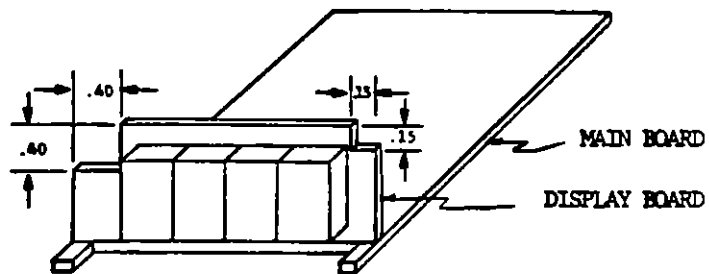

Figure 4. Display Board Modification
F. Modify the display board per Figure 4.